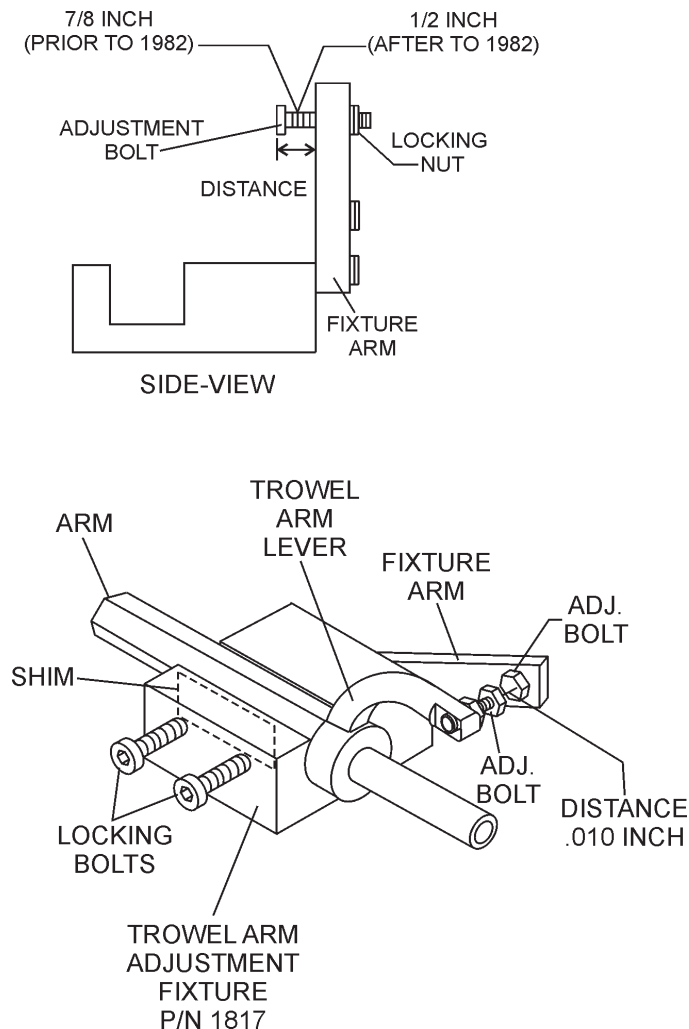

Figure 49. Trowel Arm Adjustment Tool
Shown in (Figure 49) is the adjustment fixture with a trowel arm inserted. As each trowel arm is locked into the fixture, the arm bolt is adjusted to where it contacts a stop on the fixture. This will consistently adjust all of the trowel arms, keeping the finisher as flat and evenly pitched as possible.
2. Trowels manufactured prior to June of 1982 require that the distance from the end of the adjusting bolt and the fixture arm must be 7/8" (Figure 49). Conversely, trowels manufactured after June of 1982 require that the distance from the end of the adjusting bolt and the fixture arm must be 1/2".
3. Un-screw the locking bolts on the adjustment tool, and place the trowel arm into the adjustment fixture channel as shown in (Figure 49). A **thin shim** may be required to cover the blade holes on the trowel arm. Make sure to align the trowel adjustment bolt with the fixture adjustment bolt.